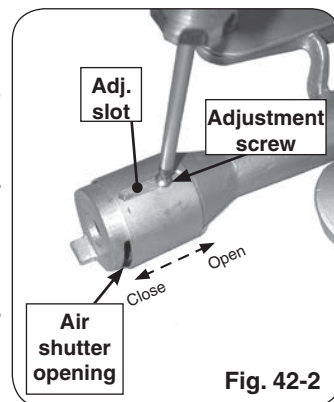

Fig. 42-2
3. Adjust the air shutter opening by loosening the adjustment screw with a screwdriver, then sliding the air shutter backward or forward to open or close the air shutter opening (see Fig. 42-2).